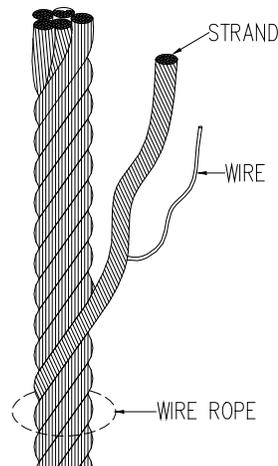

Figure 5-1.
- (b) Six randomly distributed broken wires in one rope lay. A rope lay is the length of rope along which one strand makes a complete revolution around the rope. See Figure 5-1. Keeping the rope clean and wound evenly on the drum will increase its life and efficiency.